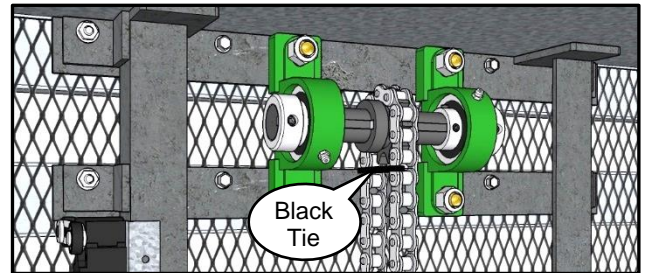

Figure 10
- NOTE:** Do not cut the black plastic tie! (see Figure 10)
- 7** Cut black plastic tie off. (see Figure 10)